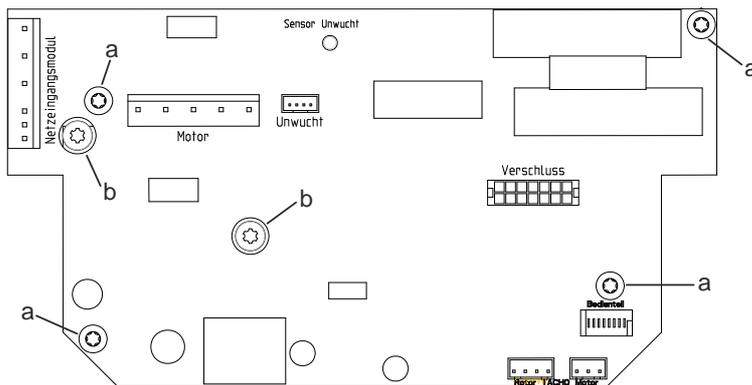

Fig. 5
- Screw the six fastening screws out of the electronics (Fig. 5, a, b).
- ✎ The two screws (Fig. 5, b) are located on the cooling plate of the electronics (A1).